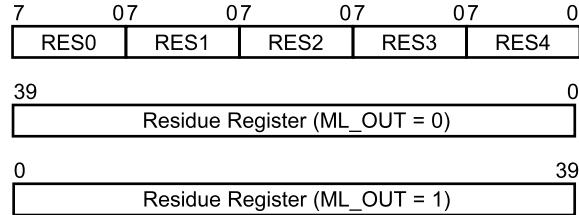

Figure 5-20 Mapping of the Residue Register
The polynomial and residue registers are mapped as five 8-bit registers. The mapping of the residue register is controlled by the ML_OUT bit of the LFSRCFG3 register, as shown in Figure 5-20.
- ML_OUT*—set to shift data out of residue register LSB, and into MSB, clear to shift data out of residue register MSB, and into LSB. See Figure 5-20 for effect on RESx mapping.
the residue register to the RESx registers, as shown in Figure 5-20. The residue register can be initialized to all ones by setting the SET_RES bit in the LFSRCFG1 register.